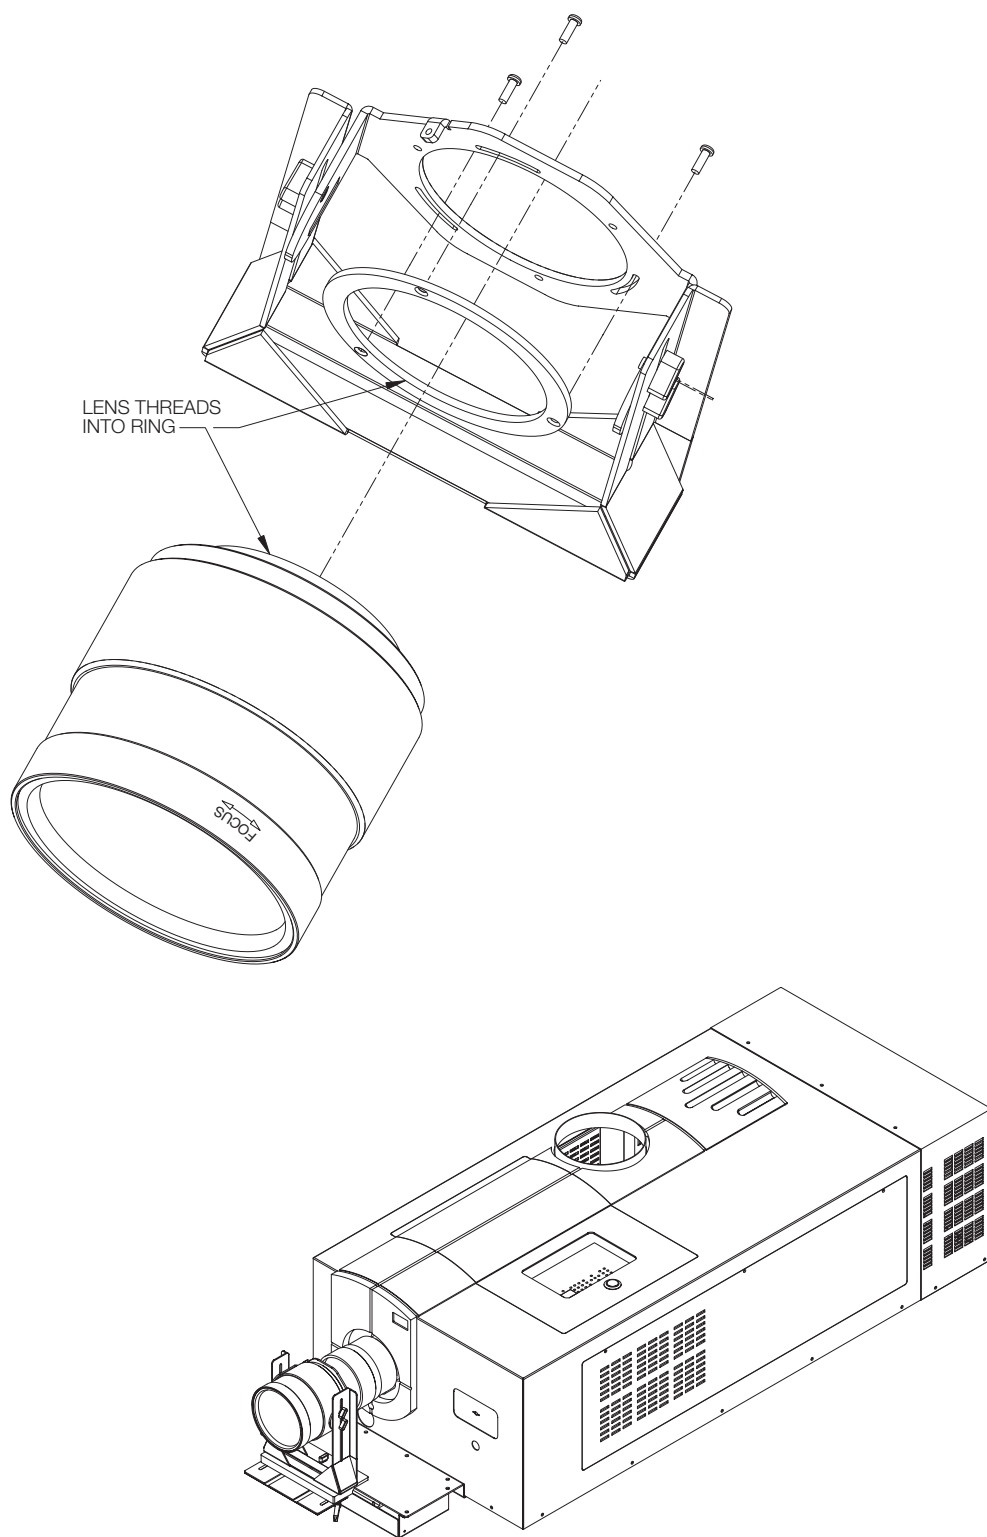

Figure 3-27. Attaching the Anamorphic Lens to the Lens Ring
4. Attach the Lens Adapter Ring to the Pitch Adjustment Yoke using the three screws provided for this purpose; see Figure 3-27. Then, attach the lens to the Lens Adapter Ring by threading it clockwise.
2. Loosen the three Lens Rotation Set Screws (shown in Figure 3-27) on the lens adapter plate just enough to allow it to rotate freely.